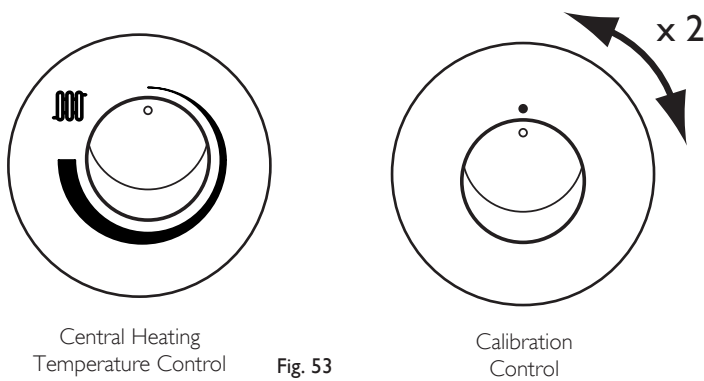

Fig. 53
3. Turn both temperature control knobs fully anticlockwise, then quickly turn the Calibration Control knob $\frac{1}{4}$ clockwise twice and back fully anticlockwise (Fig. 53).